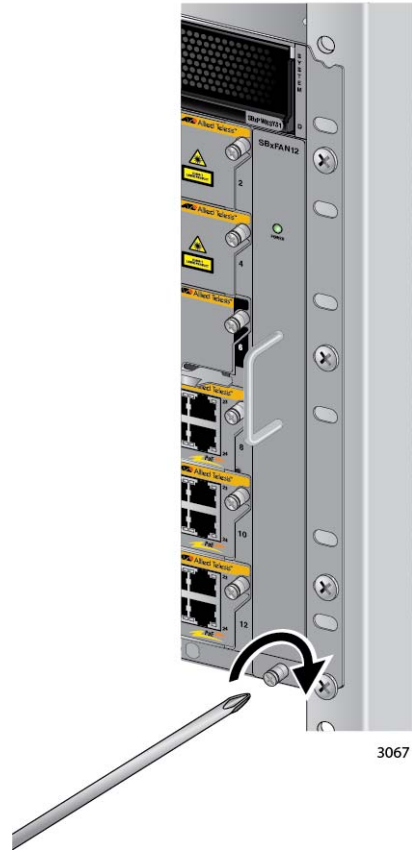

Figure 195. Tightening the Screw on the AT-SBx81CFC960 Fan Module
3. With a #2 Phillips-head screwdriver, tighten the screw at the base of the module to secure the module to the chassis. Refer to Figure 195 on page 307.